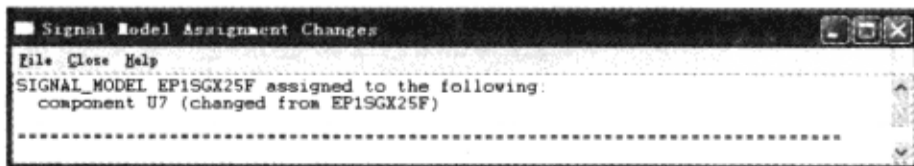

图 5-3-60 “Signal Model Assignment Changes”窗口
(8) 单击“OK”按钮，关闭“IBIS Device Model Editor”对话框。
(9) 单击“OK”按钮，关闭“Signal Model Assignment”对话框→弹出“Signal Model Assignment Changes”窗口，如图 5-3-60 所示。